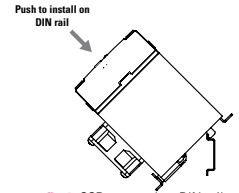

fig.1 SSR mounted on DIN rail
- Using reasonable force, push DR67 in the direction of the arrow (as shown in fig.1).